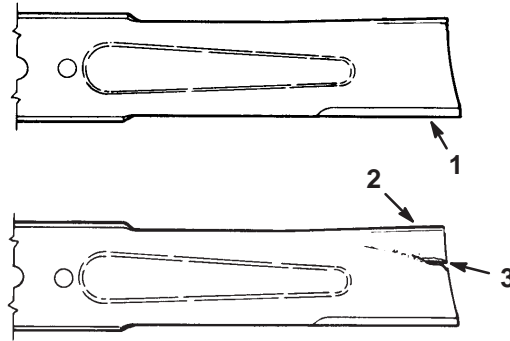

Figure 30
1. Inspect the cutting edges (Fig. 30).
3. Inspect the blades, especially the curved area (Fig. 30).
4. If you notice any damage, wear, or a slot forming in this area (Fig. 30), immediately install a new blade.